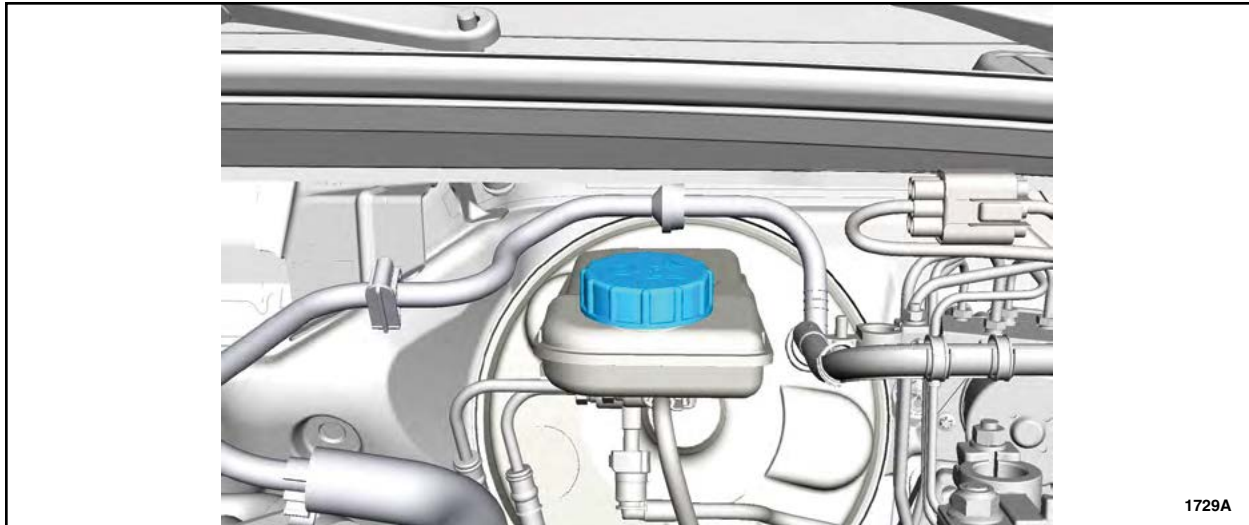

FIGURE 21
2. Remove the master cylinder reservoir cap. See Figure 21.